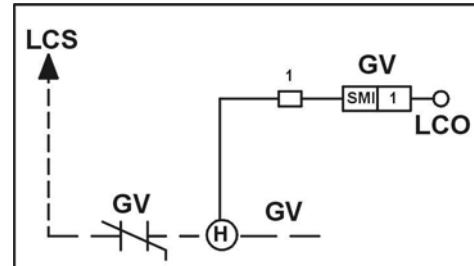

Figure 2-7
**Governor wiring** two 18 gauge wires are required from the electrical safety switch on the governor to the controller. [See Figure 2-7.]